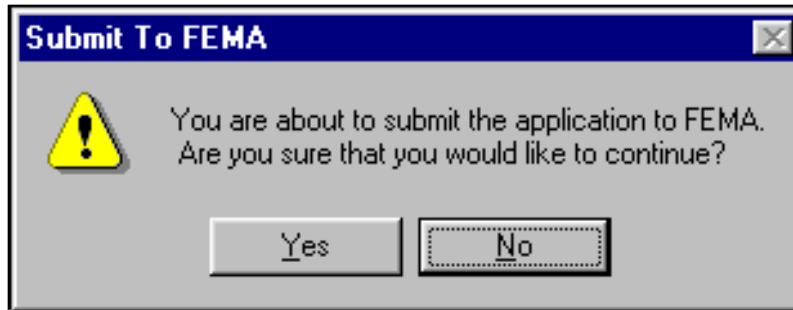

Figure 8-13: Final Submission Dialog Box
8. On the bottom left part of the tab, click the SUBMIT button. The Final Submission dialog box is displayed (Figure 8-13).